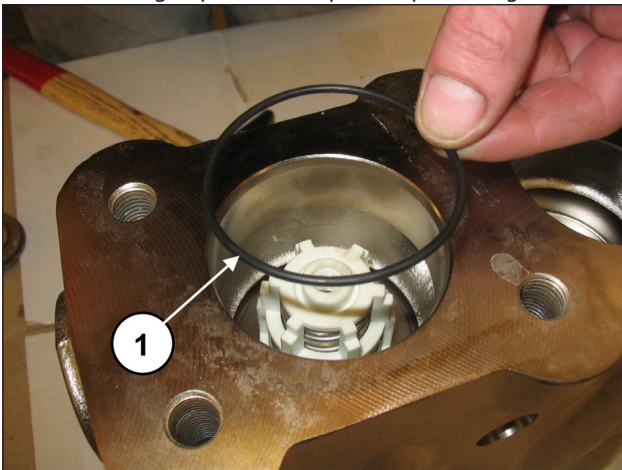

Fig. 100
Insert the O-ring, exploded view pos. 17 (pos. ①, Fig. 100).